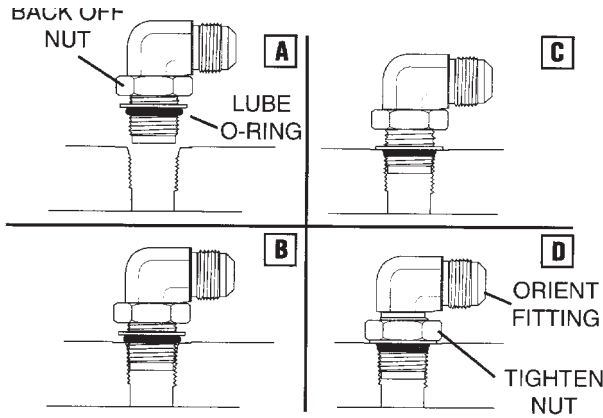

FIGURE 1-8
2. Lubricate O-ring with a light coat of clean oil (Figure 1-8 A).
3. Back off locknut as far as possible (Figure 1-8 A).
4. Screw fitting into port by hand until the backup washer contacts face of port and is pushed all the way towards the locknut (Figure 1-8 B & C).
5. To orientate the fitting, unscrew the fitting the required amount, but not more than one full turn (Figure 1-8 D).
6. Hold the fitting in the desired position and tighten the nut (Figure 1-8 D) following the F.F.F.T. method, see Hydraulic Fitting F.F.F.T. Method starting with step 4.